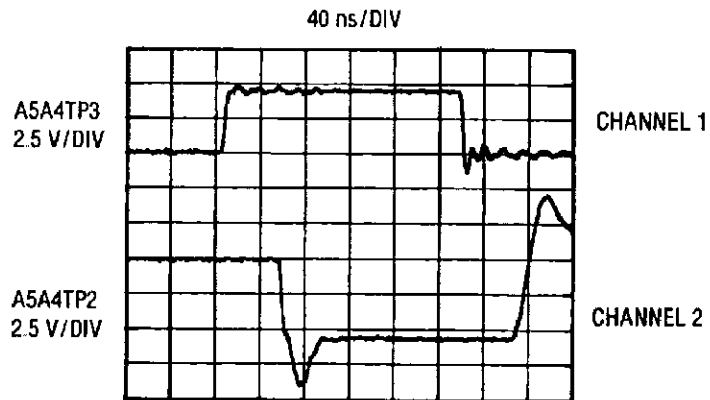

Figure 8-59. Pulse Driver Board Input and Sample Pulse
39. Connect channel 1 of the oscilloscope to A5A4TP3 and Channel 2 to A5A4TP2. Set Channel 1 display at top of screen. Set the oscilloscope controls as shown in figure 8-59 and compare the display to the figure.